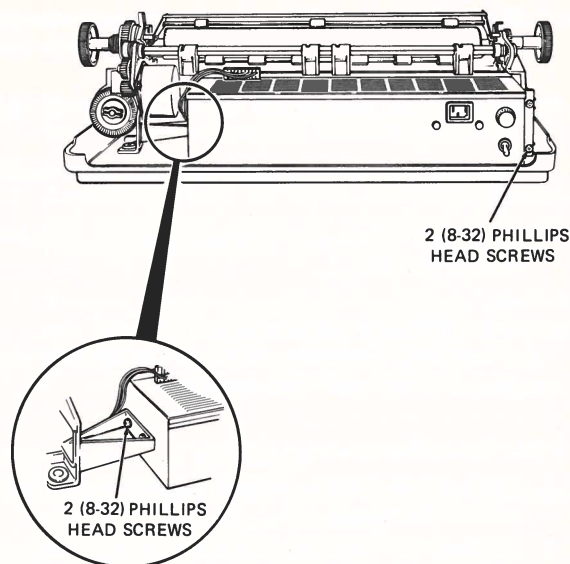

Figure 2-8 Power Supply Removal
3. Loosen the two (8-32) screws that secure the power supply to the left side as viewed from the rear of the terminal (Figure 2-8).
4. Remove the two (8-32) screws that secure the power supply to the right side as viewed from the rear (Figure 2-8).